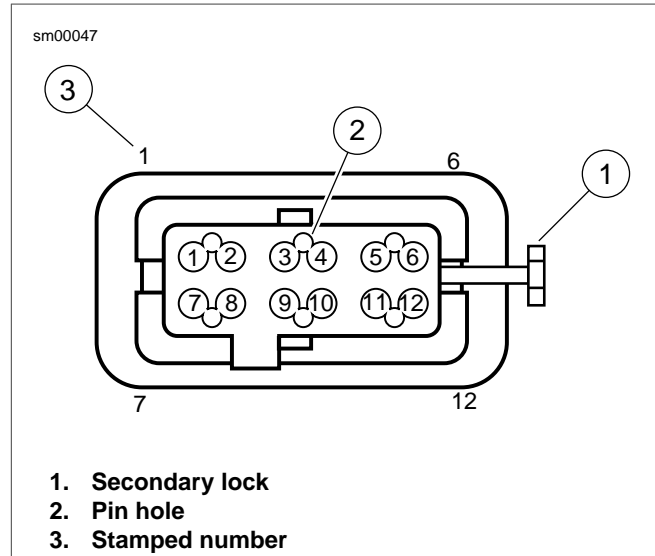
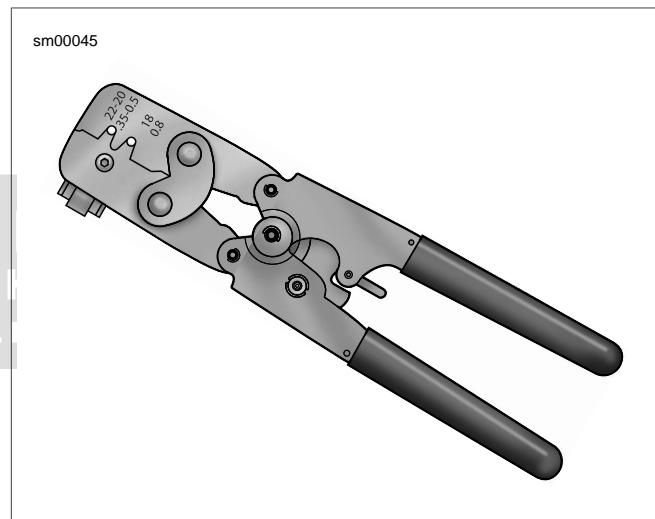

Figure A-49. Packard Micro 64 Connector: Housing
Figure A-50. Packard Micro 64 Terminal Crimper (HD-45929)
1. See Figure A-49. Locate the head of the secondary lock (1) on one side of the connector housing.
3. Locate pin hole (2) between terminals on mating end of connector.
4. See Figure A-50. Obtain the PACKARD MICRO-64 TERMINAL REMOVER (Part No. HD-45928).
See Figure A-49. For wire location purposes, the corners of the socket housing are stamped (3) with the numbers 1, 6, 7 and 12, representing terminals 1-6 on one side, and 7-12 on the other.